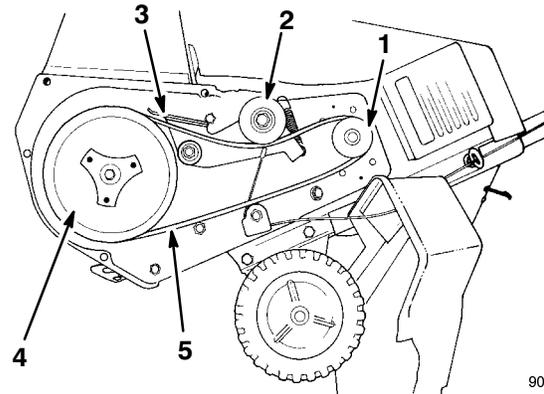

Figure 20
- Pull the idler pulley up slightly while pulling out the drive belt. Allow the pulley to gradually release when it can move past the belt (Fig. 20).
- Release the idler pulley, and slip the belt under the idler pulley (Fig. 20).